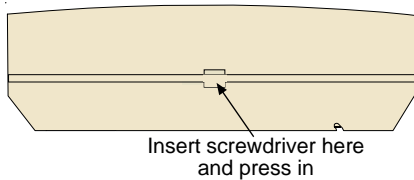

Figure 1 - Removing the outer cover
- Remove the outer cover of the receiver (see Figure 1) and set it aside.
- If not already done, remove the Outer Cover from the Receiver (see Figure 1) and set it aside.